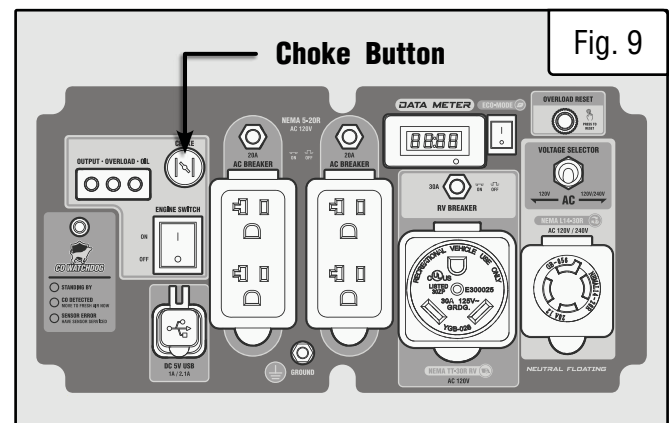

Fig. 9
2. Pull the choke button out to the CLOSE/START position (Fig. 9).
7. Once the engine has started, slowly push the choke button into the OPEN/RUN position (Fig. 9).